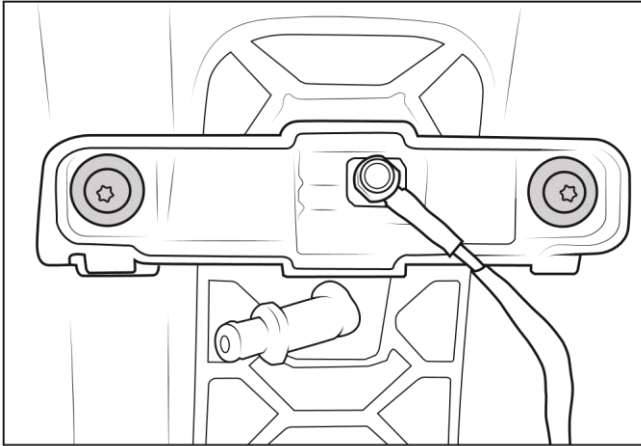
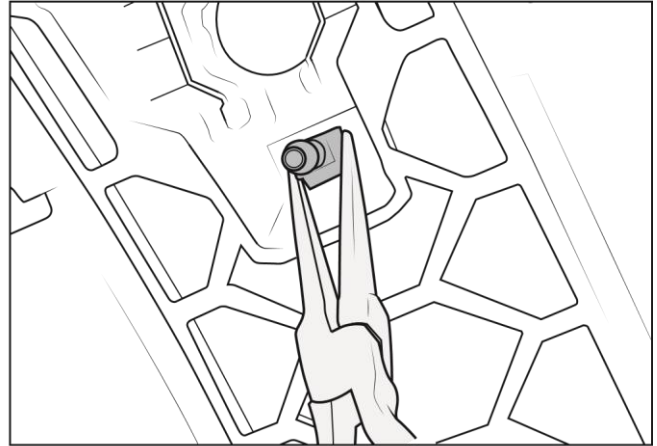

Figure 6
Figure 7
- E. Set the grill face-down on a soft surface to prevent scratching. Disconnect the camera harness and use a trim tool or flat head screwdriver to remove the wire tie retainers from the grill. Remove harness completely and trim off the old wire tie retainers, being careful not to damage any wires or insulation. Remove the two T-20 torx screws holding the camera retainer into the grill insert (fig. 6). Discard the retainer and SAVE the screws. Remove the camera and then use thin needle nose pliers to squeeze the retainer clips on the washer nozzle and remove it from the grill insert (fig. 7). If desired, remove the T-20 Torx screws and two plastic clips holding the center grill insert, remove it, and replace with 6QN22RXFAB Mopar insert. Replace original hardware and tighten until snug.